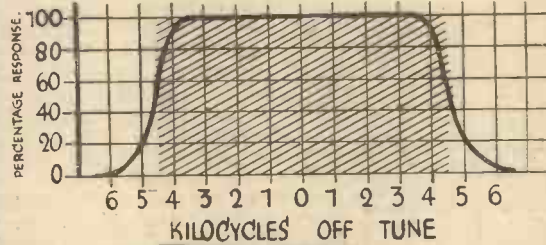

Fig. 5 A, B, and C.—Response curves for different kinds of tuned circuits.
Quite apart from obtaining accurate numerical data a good deal of information can often be gained merely by studying the shape of the curve. As an example of this I would ask you to examine the graph of Fig. 5(A) which shows the response of a tuning circuit to different frequencies. The zero position on the horizontal scale represents the frequency of the carrier wave of a station and the figures on each side refer to the frequency of the side bands or musical notes impressed on the carrier wave. It will be seen that although full response is given to notes of low frequency, the response to high frequencies falls off very rapidly. The curve tells us that the circuit under review tunes very sharply and cuts off, or gives little response to, the higher musical frequencies. In consequence, it will provide excellent selectivity, but must be followed
by some kind of tone-correction device if good reproduction is required. Now compare the graph of Fig. 5 (A) with that of 5 (B). The latter obviously represents a flatly-tuned circuit which would be unselective but would give practically an even response to all musical notes.
Fig. 5 (C) is the response curve of an ideal band-pass tuner; equal response is given to all musical frequencies up to 4½ kilocycles (the highest permissible under the present scheme of 9 kilocycle separation between stations), but higher frequencies are given a sharp cut-off. Thus the circuit represented will be very selective, even though giving full response to all musical frequencies. The curve will explain the reason for the term "square-peak"